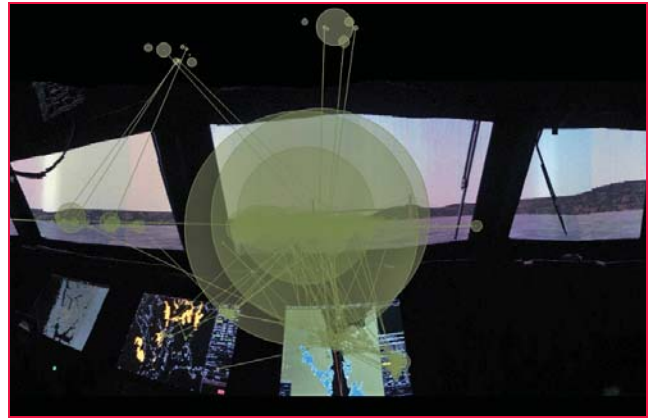
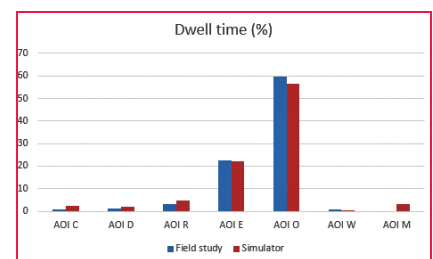

Figure 3: Scanpath participant 1
Figure 4: Dwell time in the defined Areas of Interest (AOI)
Scanpath refers to the fairly abstract concept of a fixed path that is characteristic to a specific participant and viewing pattern (13). In Figure 3 the scanpath of participant 1 is visualized, and the duration of the fixation is shown by the size of the circles. The data collected reveals that the primary gaze area for the navigator is outside of the ship (AOI_O), explicitly expressed by the Dwell time statistics. Figure 4 shows the dwell time for the navigator to be 59,7% in the field study, and 56,4% in the simulator study in AOI_O (10).
AOI_D consist of an electromagnetic log (Figure 6). The electromagnetic log is designed so that you have to press and hold a button for 2 seconds in order to reset the trip meter. The navigator resets this button for every change of course typically during the turning phase of the ship, which is a critical phase for conduction of safe navigation. The illustration in Figure 4 indicates a less than optimal design since it removes the